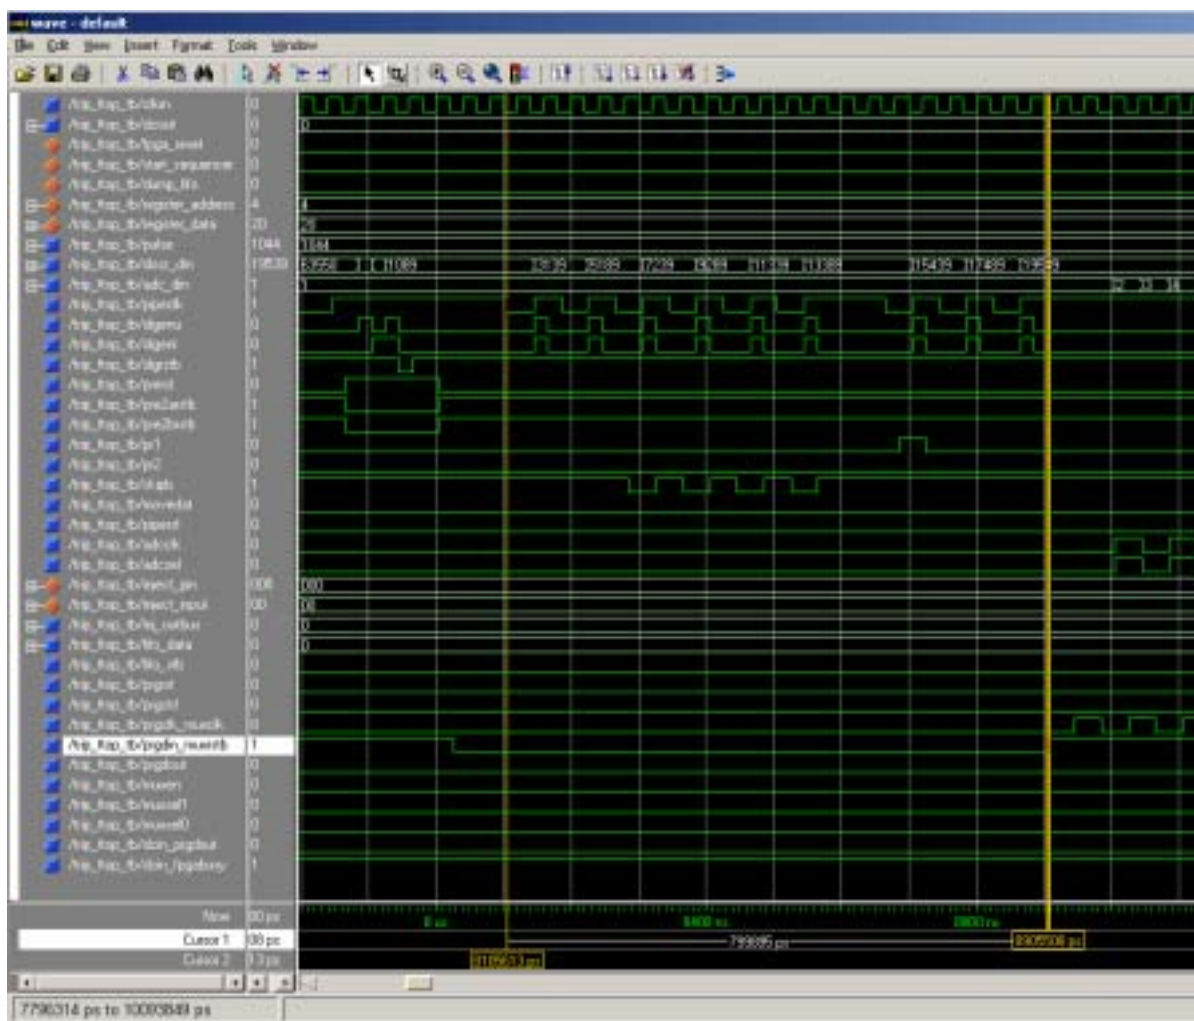

Figure 2 End of acquire phase and beginning of readout phase.
According to simulation example presented in Figure 2 the sequencer's parameters are defined as:
7. At the end of the sequencer's acquire phase (see last PIPECLK in Figure 2) the readout phase starts by itself. It contains a header of four SKIPB triggers (L1A) followed by the readout of all four hit values (if any) to which the four triggers pointed to.
8. Figure 2 shows also the beginning of the ADC part of the readout phase. The digitization of hit's amplitude and time analog signal will take place for all 32 channels (see ADCCLK signal). The 10 bit ADC word of analog TRIP_T outputs is concatenated with the six MSB of discriminator outputs (i.e. the pipeline cell ID) and stored as a 16 bit word in a BRAM for further download to ASIC Tester's FIFO.